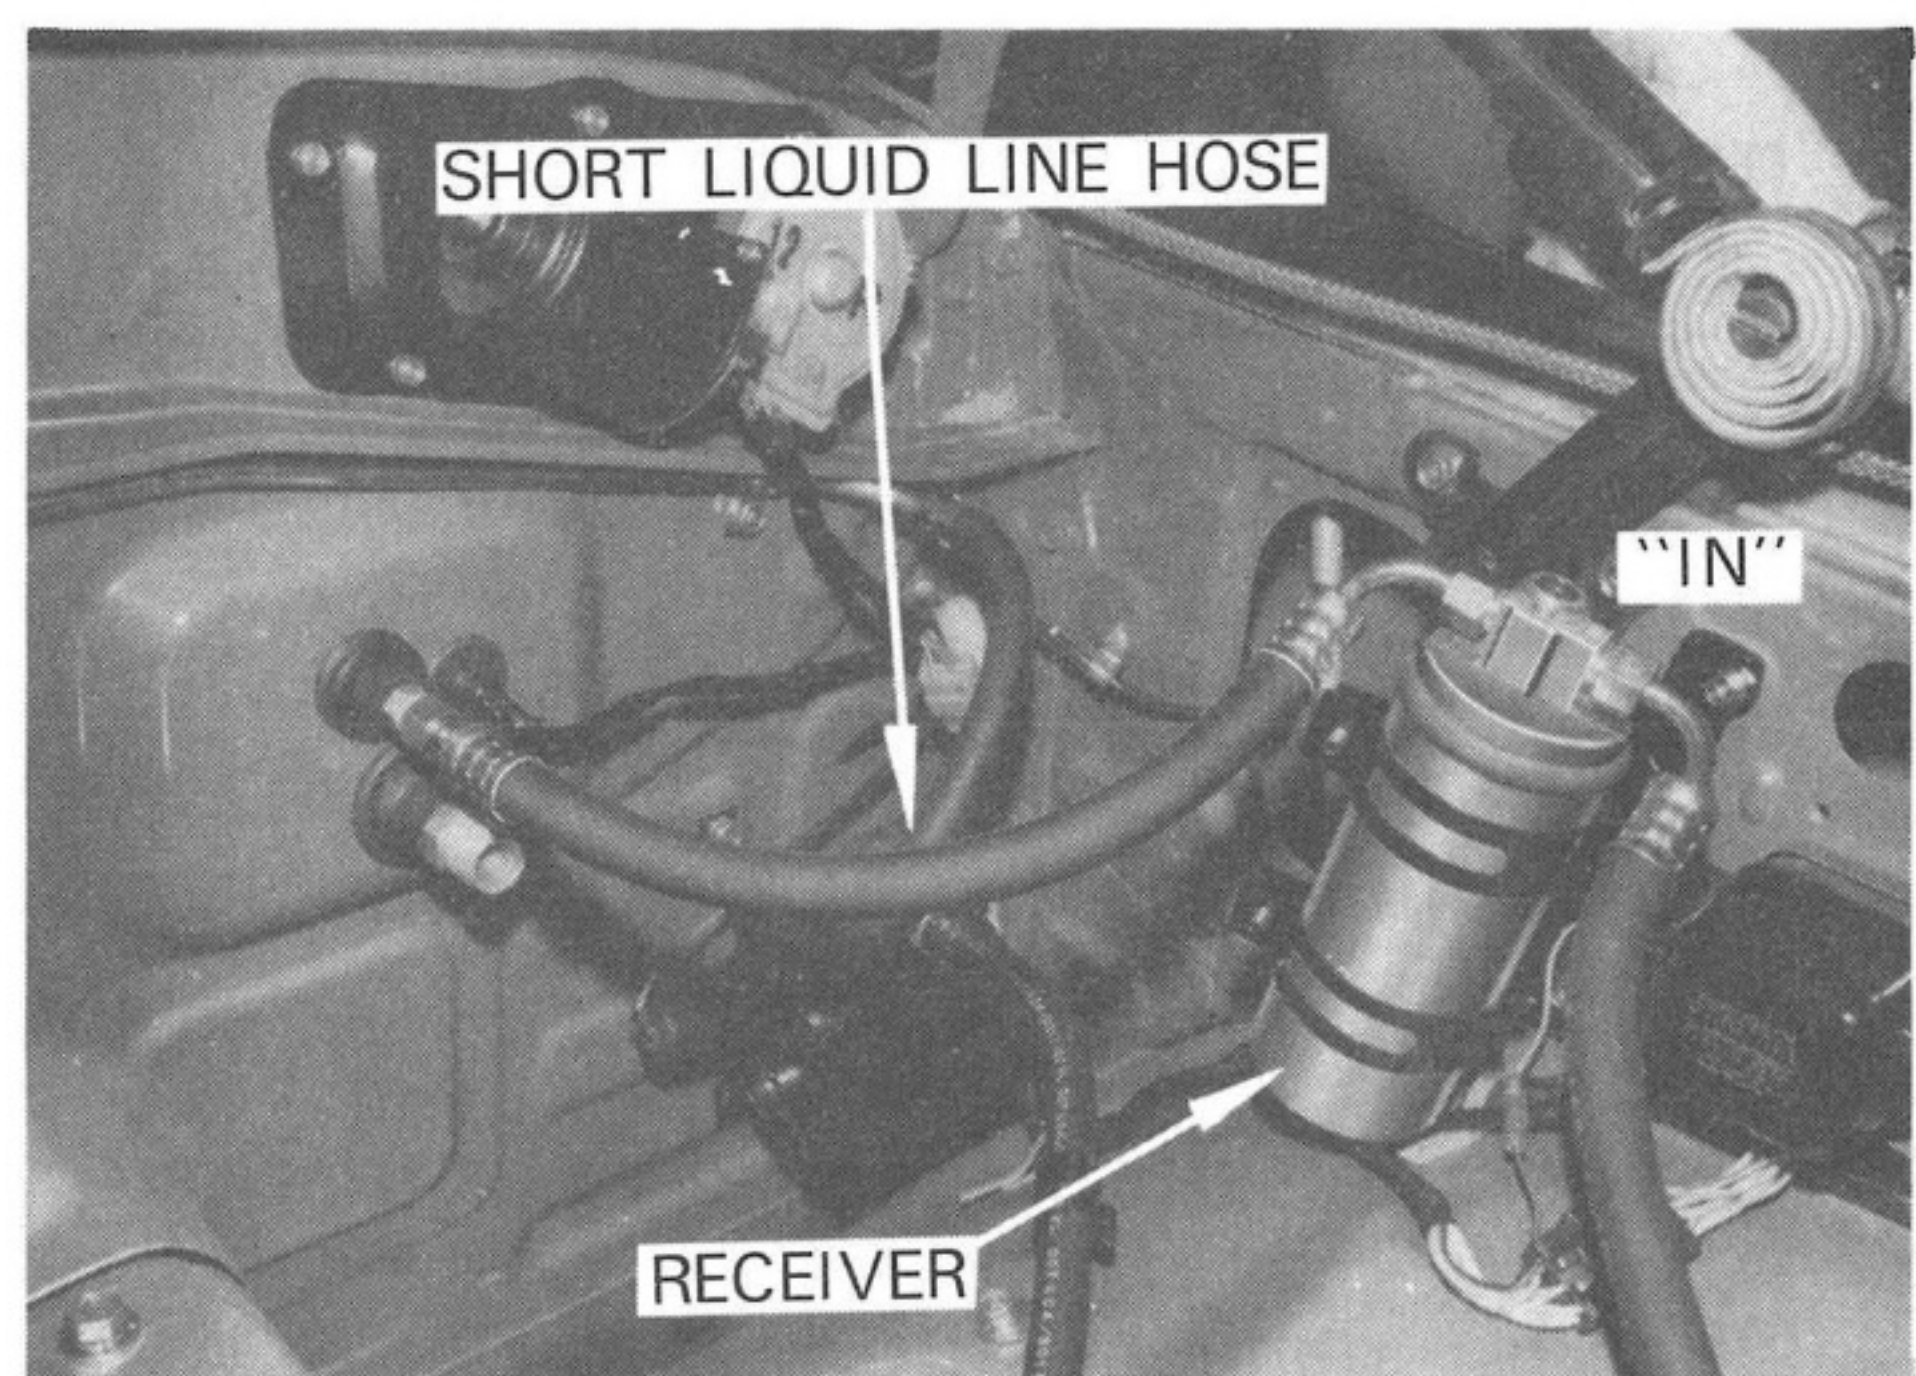

Fig. 3-5
- C) Connect the shorter liquid line hose to the cooling unit inlet and receiver outlet fittings as shown in Fig. 3-5.